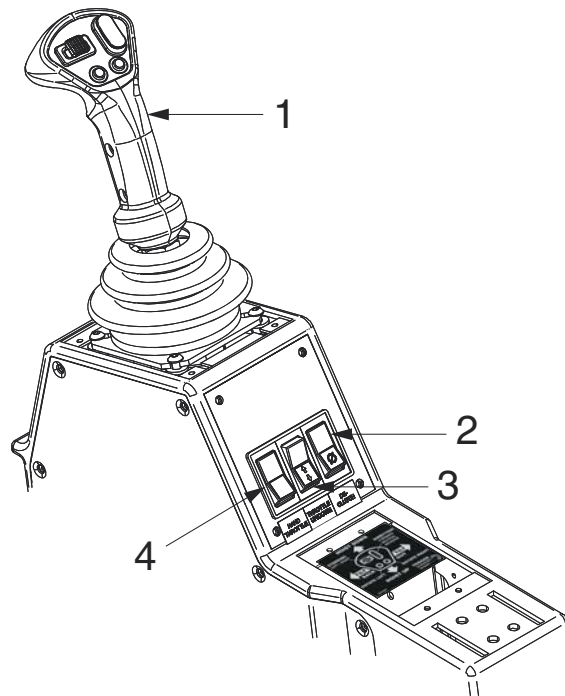

Figure 2-4-4 Right Hand Arm Rest Control Unit
Adjusts RPM's up or down when adjacent switch item 3 (see Figure 2-4-4) is engaged.
Overrides foot throttle. To engage flip switch into the on position. Used with item 4 (see Figure 2-4-4).